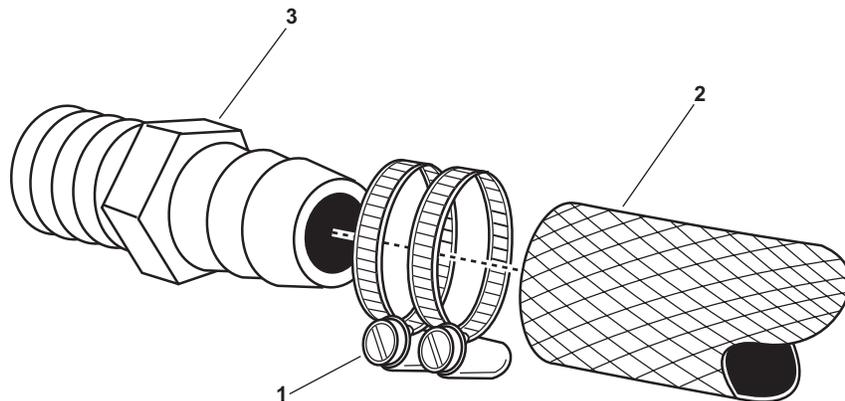

Figure 1. Low Pressure Fitting, Hose, and Clamp
4. Loosen the hose clamps (figure 1, item 1) at both ends of the hose (figure 1, item 2) and remove the hose from the fittings (figure 1, item 3).
2. Place the hose clamps (figure 1, item 1) over the hose (figure 1, item 2).
3. Place the ends of the hose (figure 1, item 2) over the fittings (figure 1, item 3).
4. Tighten the hose clamps (figure 1, item 1).
4. Loosen the hose clamp (figure 1, item 1), and remove the hose (figure 1, item 2) from the fitting (figure 1, item 3).
5. Remove the damaged fitting (figure 1, item 3).
1. Place antiseizing tape on the male threads of the replacement fitting (figure 1, item 3) and install the replacement fitting.
2. Place the end of the hose (figure 1, item 2) on the fitting (figure 1, item 3).
3. Tighten the hose clamps (figure 1, item 1).